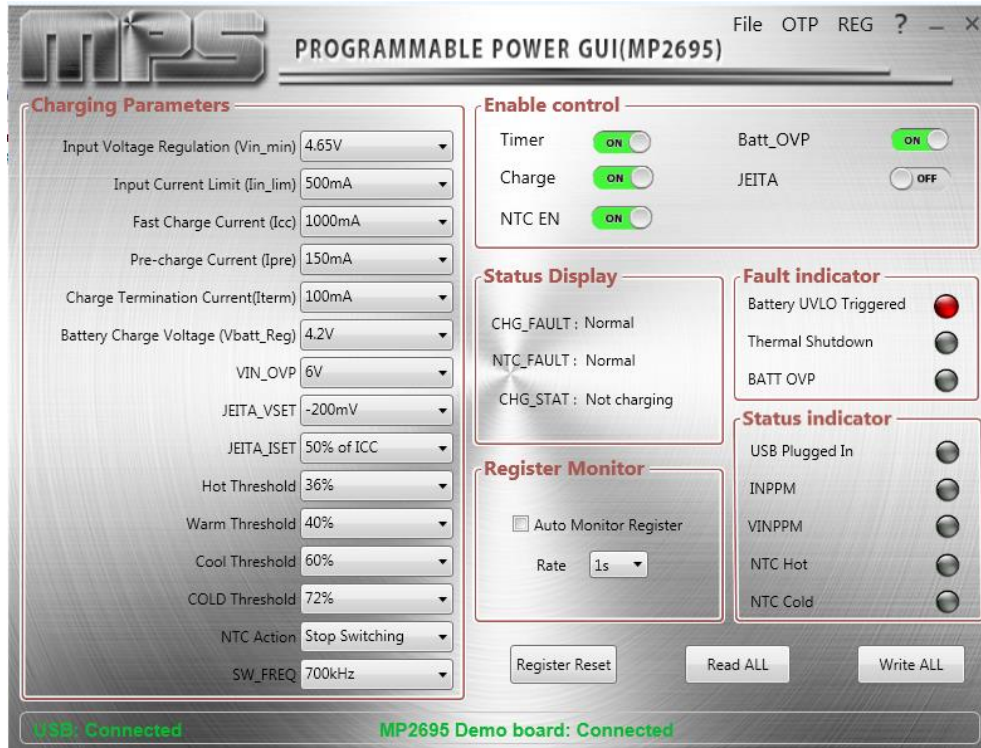

Figure 7: USB Communication Interface and MP2695 EVB Board Connected
- If connection is successful, both the USB and MP2695 demo board statuses will appear as “Connected” in green (see Figure 7).
3. Click the “Read All” button to read the I²C register values and the default values are displayed (see Figure 7).